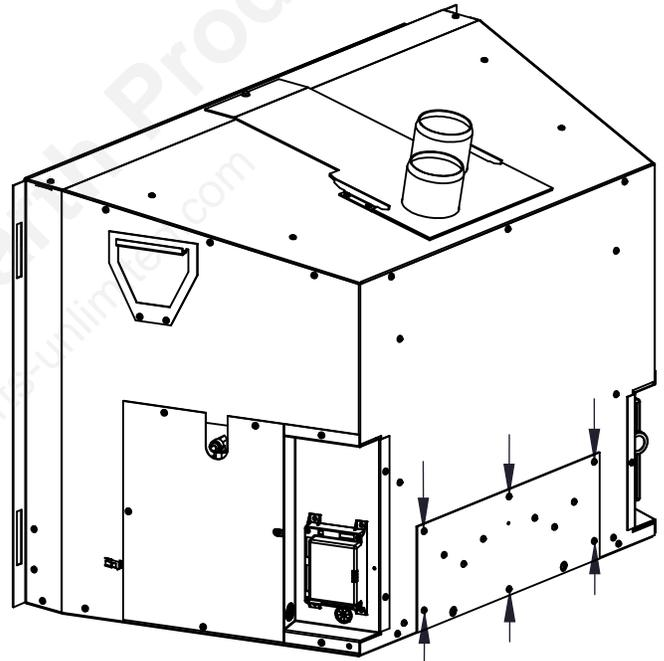
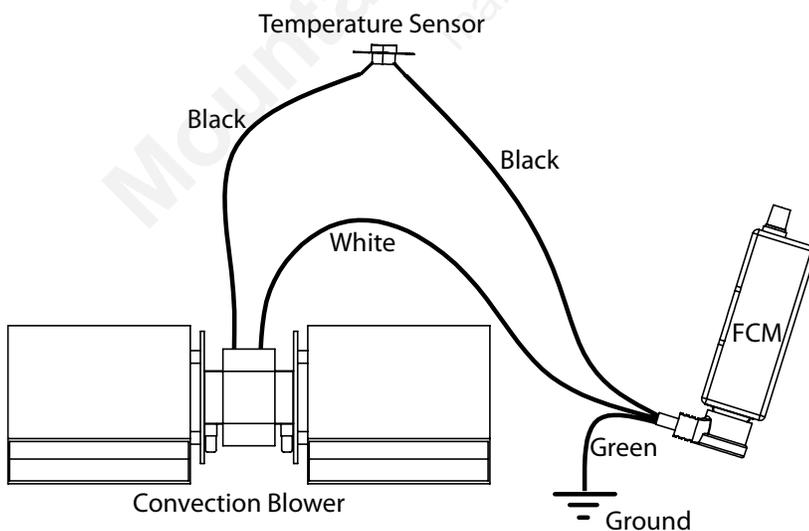

Figure 22: Fan Mount Removal.
Figure 23: Fan Wiring.
1. Use a T-20 screwdriver to remove the screws that hold the Fan Mounting Plate in place See Figure 22.
3. The Fan is removed from the Mounting Plate by removing the six (6) screws that hold it in place using a T-20 screwdriver.
4. The fan can then be disconnected from the wiring harness (See Figure 23 for fan wiring).